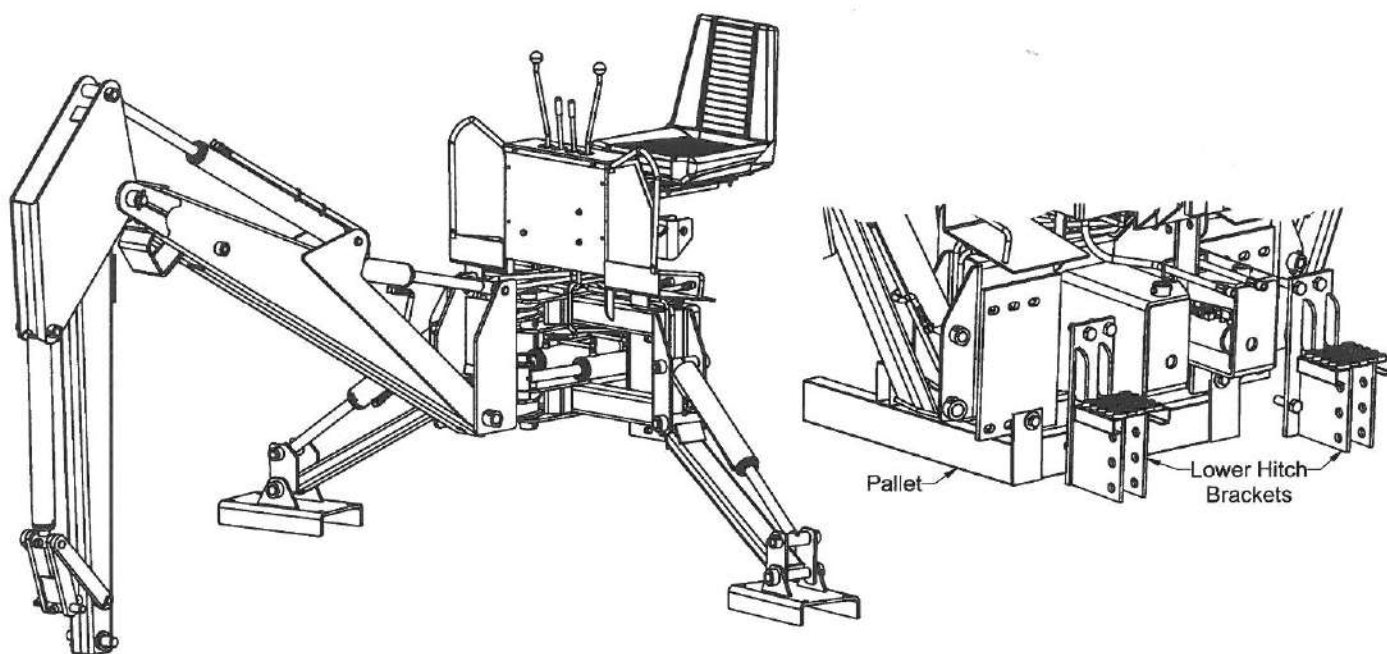

Figure 6
8. Extend boom, dipper stick, and stabilizers until they contact with the ground. Remove shipping pallet (Figure 6).